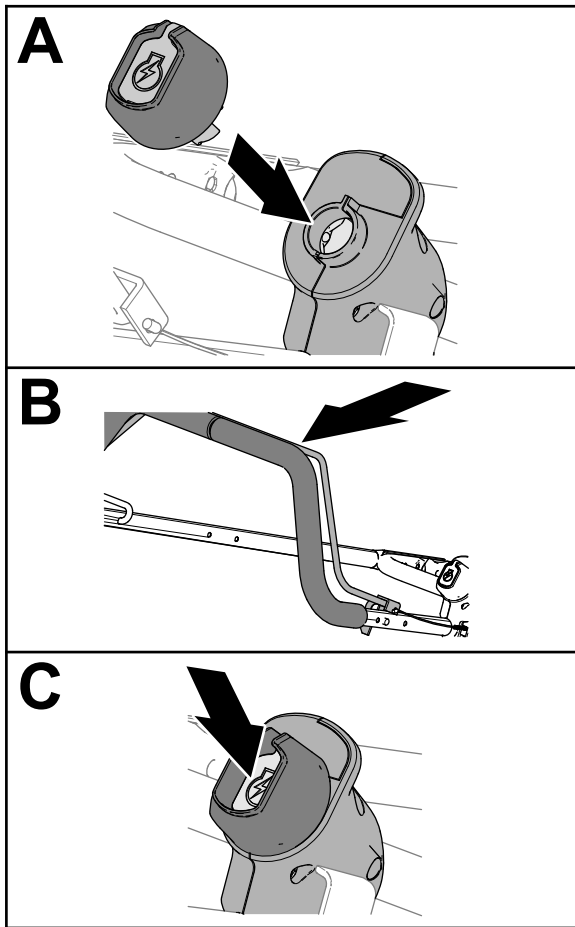

Figure 16
1. Insert the electric-start key into the electric-start switch (Figure 16).
2. Grasp the handlebar and operator presence bail and close the bail against the handlebar (Figure 16).